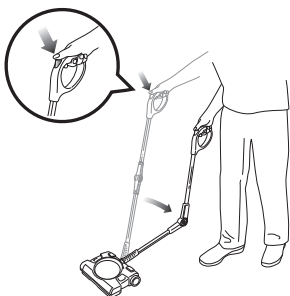

Fig. 5
- 3** To clean under furniture, use the Shark® Backsaver™ folding handle. Press the handle release button and apply a bit of pressure to bend the handle forward. (fig. 5) The Shark® Backsaver™ joint will release from the locked position to reach messes under furniture. (fig. 6)